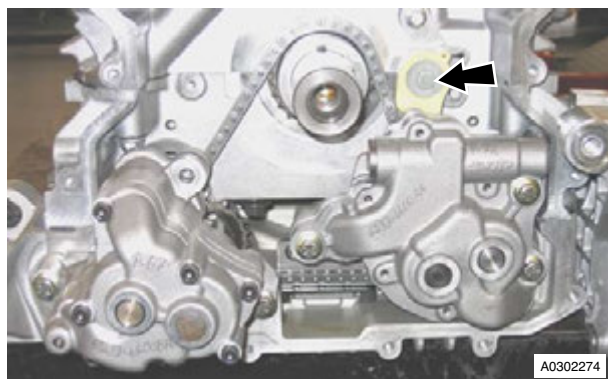

Figure 1
2. Remove bolts (x3) that attach the oil scavenge pump to sump (refer to Figure 1).